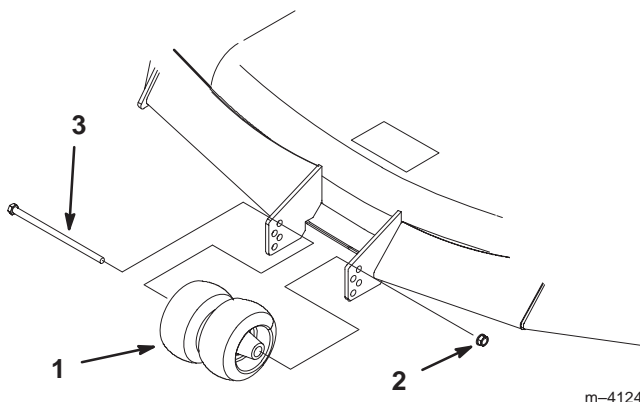

Figure 22
2. After adjusting height-of-cut, remove bolt and nut (Fig. 22).
3. Select hole so gage wheel is positioned to the nearest corresponding height-of-cut desired (Fig. 22).
4. Reinstall the bolt, center rollers and nut (Fig. 22).